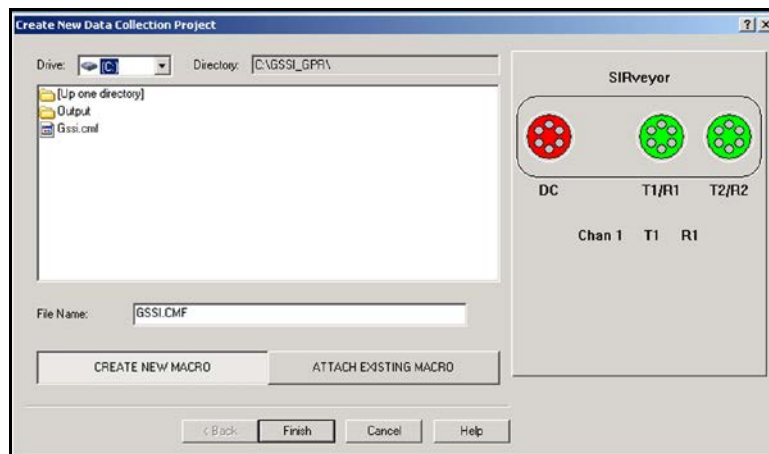

Figure 48: Attach a Macro or Create a New One.
- 7** This screen controls your collection parameters. Most of the time, the default settings will be fine. To access settings for different applications, click the small arrow in the Config Type (1) option.
- For example, if you are scanning a concrete slab to find reinforcing bars, choose CONCRETE. Then choose your antenna type under Config Name (2). An X after the name is used to denote a cross-polarized antenna that is used 90 degrees to its normal orientation. Common data collection parameters will be automatically set.
- 8** Check to make sure that Scans/ft (7) is adequate for your application. The general rule is the more scans/unit that you collect, the slower your collection speed, the larger your data file, and the more stretched your file will appear. When you are finished, click Next >.
- 9** The next window (Figure 48) will prompt you to either create a new macro or attach one that you have already created. A macro is nothing more than a saved list of data collection parameters. These parameters include: filters, time range and gain settings. These will vary from job to job, so it is possible you will have many different macros for different situations.